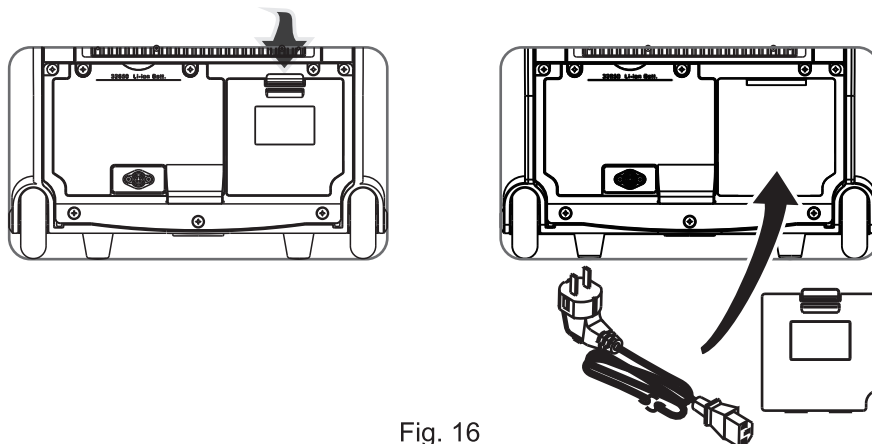

Fig. 16
V. How to Store the Accessories. Fig. 16